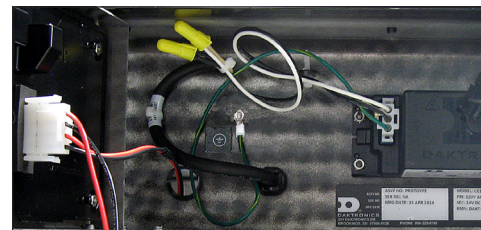

Figure 13: Power Connection
2. Use wire nuts or other appropriate hardware to connect power wires to the power supply harness or pigtail. Refer to **Figure 13**.
3. Connect supply power ground wire to the grounding stud. Refer to **Figure 13**.